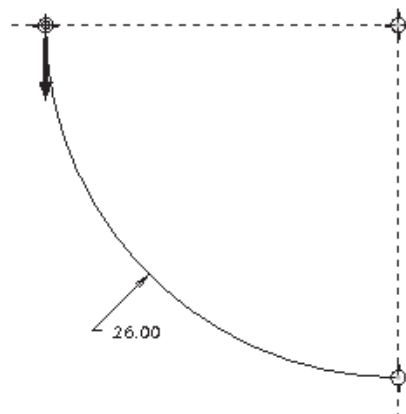

Figure 8-90 Dimension for the arc
1. Double-click on the dimension and modify the radial dimension to 26, as shown in Figure 8-90. You will notice the sketch refits on the screen.